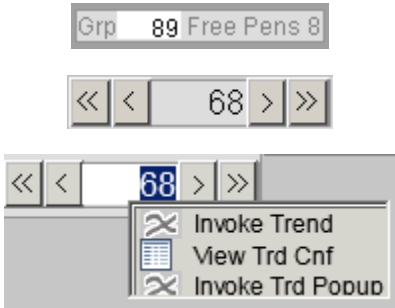

Figure 4: Trend Group shapes
- **Invoke Trd Popup:** this will invoke a trend popup window for the current selected trend group as indicated by the trend selector shape in Figure 4.